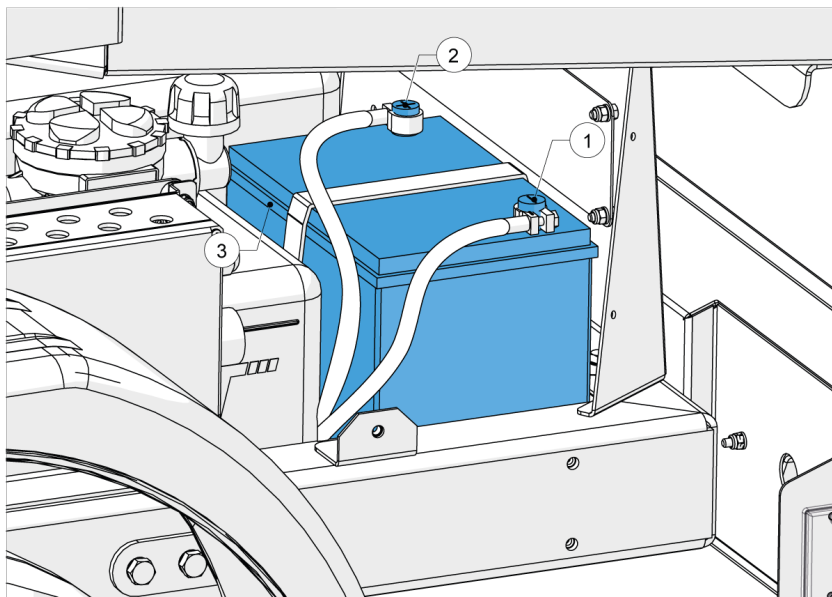

Figure 69 - Battery terminals
5. Remove the negative lead at the battery (1, Figure 69), then the positive lead (2, Figure 69).
11. Connect the positive lead to the battery (2, Figure 69), then the negative lead (1, Figure 69).